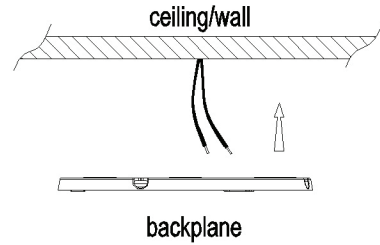

Fig. 6.
3. Pull wires through the opened hole. See Fig. 6 and 7.